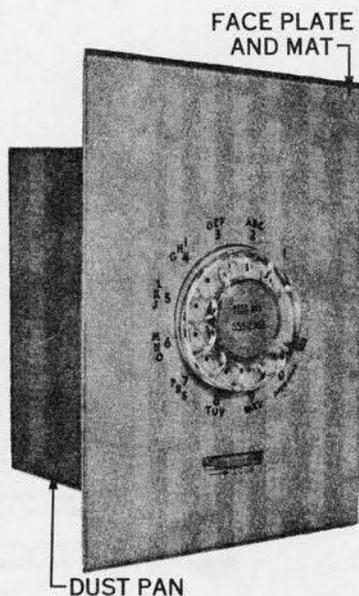

Fig. 12 - 690A1 Subscriber Set, External View
- (a) 690A1: Provided with clear plastic faceplate and a snap-on bezel to retain the faceplate (Fig. 12). A faceplate and five mats colored silver, gold, blue, green and cream white are also provided to give a choice of color contrasts.